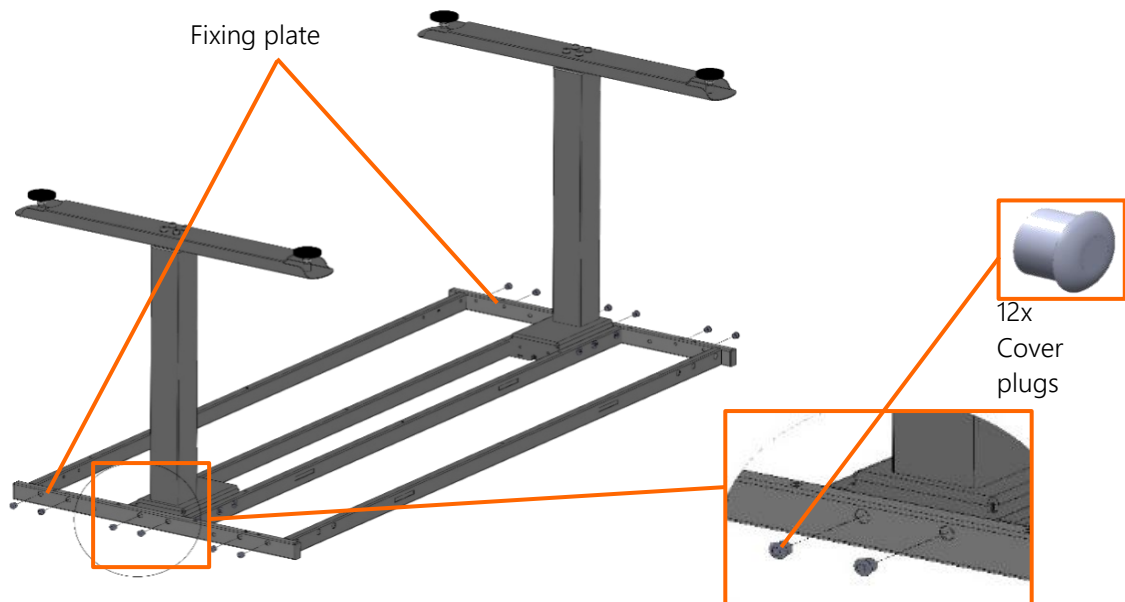
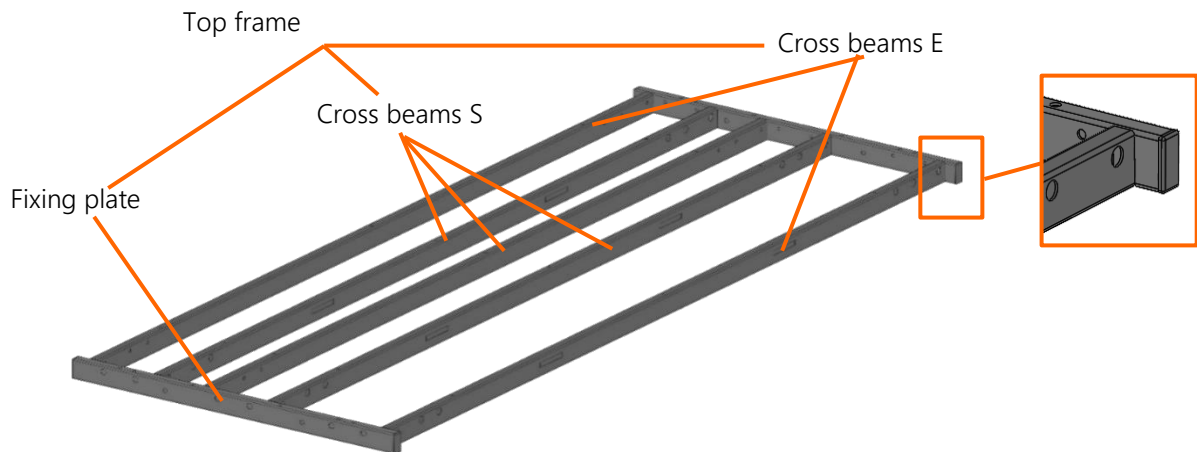

Figure 16 Mounting the cover plugs of the 2-leg system
Figure 23 Assembled top frame of the 4-leg system
- ➔ After the complete installation of the lifting elements including the lower subframe, the cover plugs are mounted in the fixing plate as illustrated in Figure 16.
For the assembly of the top frame, the cross beams E and S are placed on the floor as illustrated in Figure 16. In the next step, the fixing plates are hooked into the two cross beams E. The finally assembled top frame is illustrated in Figure 23.